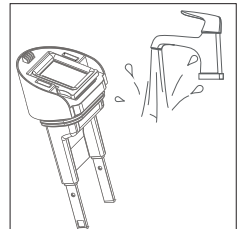

Fig. 17 – Cleaning the cap
- ▶ Clean the cap under running water (see Fig. 17).